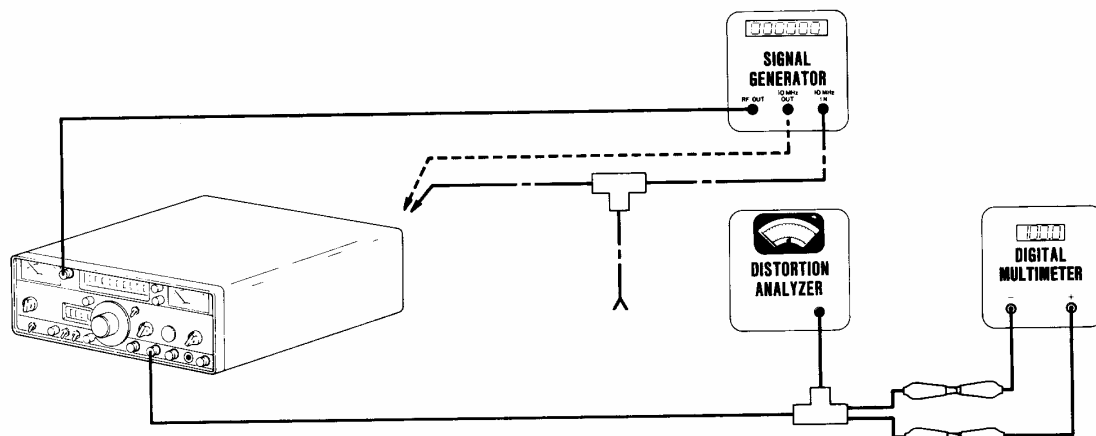

Figure 3-3 Receiver Lab Test Set-Up
1. Connect FM/AM-500A to accessory test equipment as shown in Figure 3-3.
3. Set Power Switch (17) in "LINE" position.
4. Slowly increase output level of Signal Generator until FREQUENCY ERROR Meter (21) indicates 0 Hz (± 100 Hz). Verify Signal Generator output is less than -100 dBm ($2 \mu\text{V}$ into 50Ω).
6. Rotate Modulation Mode Selector Switch (9) to "FM MID".